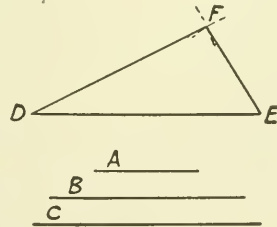

Fig. 606
15. *To construct a triangle, its three sides being given* (Fig. 606).—Make DE equal to C. From D as a centre, with radius equal to B, describe an arc at F. From E as a centre, with radius equal to A, describe another arc, cutting the former at F. Join FD and FE; and DEF is the triangle required.